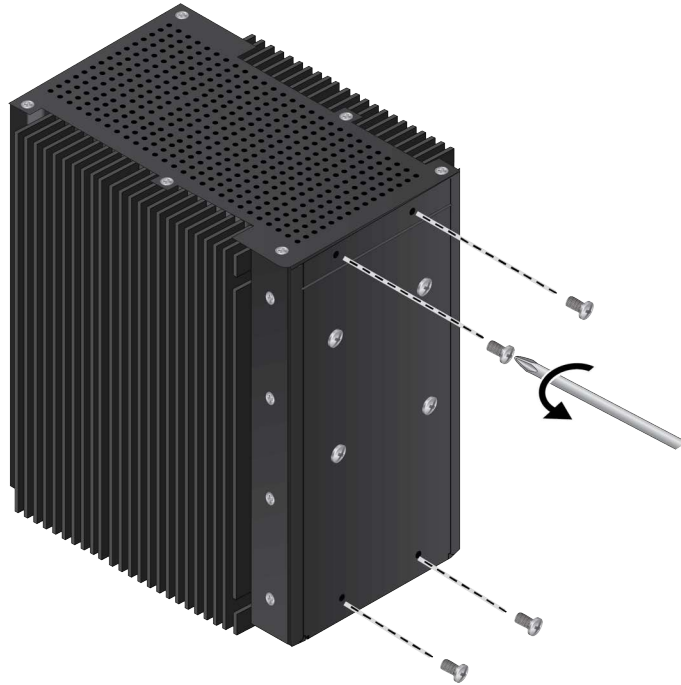

Figure 26. Removing the Four Screws from the Rear Panel
4. Remove the four screws from the top and bottom of the rear panel of the switch. Refer to Figure 26.
4. Remove the four screws from the top and bottom of the rear panel. Refer to Figure 26 on page 82.